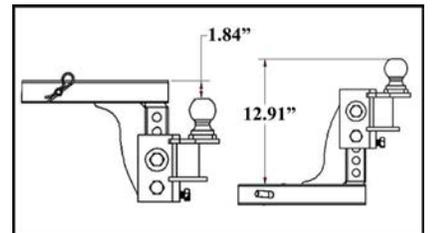

Figure 2: Hitch bar can be used in the raised or dropped position.
•Insert the L-shank assembly ① into the hitch box and install a hitch pin ⑰ and hair pin ⑱. Hitch bar ① may be used in either the up or down position (see Figure 2).